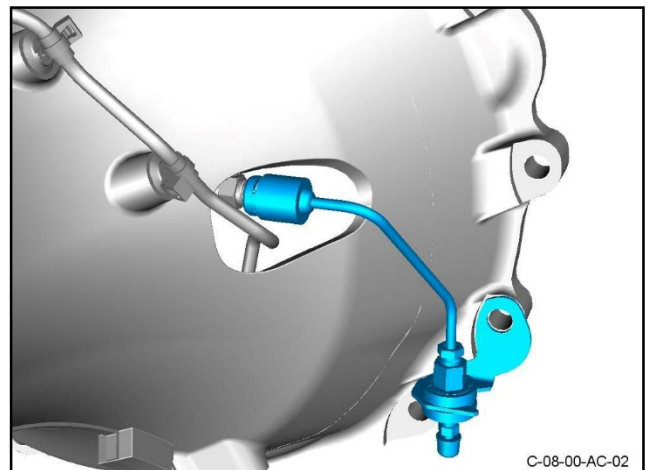

Figure 8
- 12. Put the bleed pipe into position (refer to Figure 8).